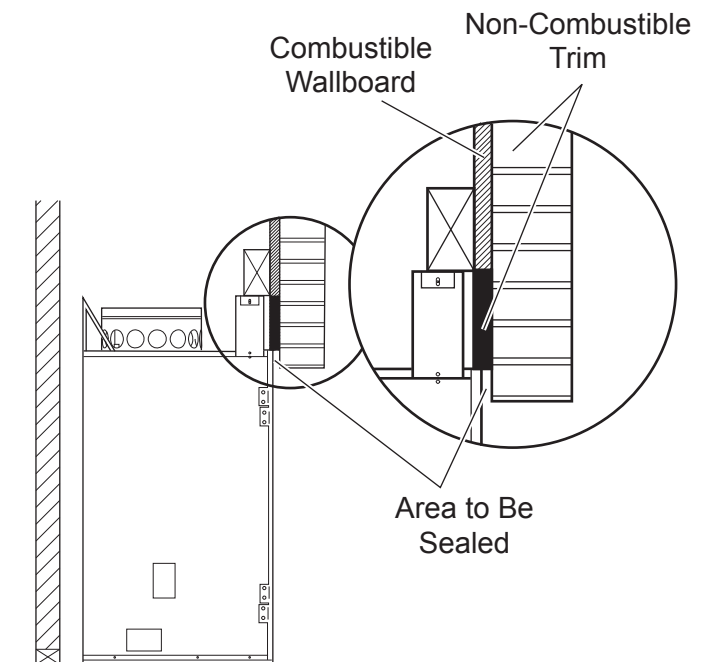

Figure 23 - Spacer Location
- Do not install combustible materials below the top spacers of the fireplace. Do not allow combustible materials to overlap the sides of fireplace face. Seal face of fireplace to surrounding wall with noncombustible caulk or trim materials. This will prevent cold air leaking around the fireplace. See Figure 23.